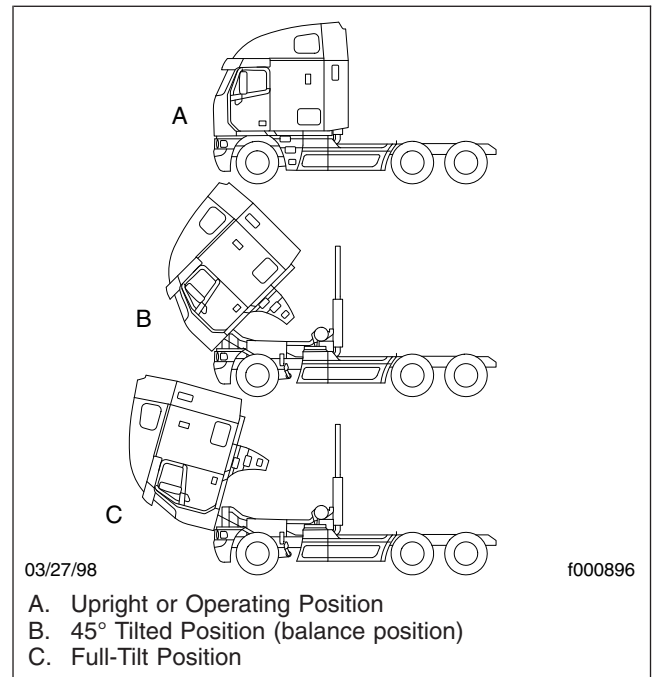

Fig. 2.15, Cab Tilt Positions
9. To tilt the cab all the way, press and hold the button on the pump until the cab nears a 45-degree angle (the balance point). See Fig. 2.15. Once the cab goes beyond 45 degrees, release the button on the pump and move the tilt pump lever to the RETURN position in order to slow cab descent.
5. Press and hold the button on the pump until the cab nears a 45-degree angle (the balance point). See Fig. 2.15. Once the cab goes beyond 45 degrees, release the button on the pump and